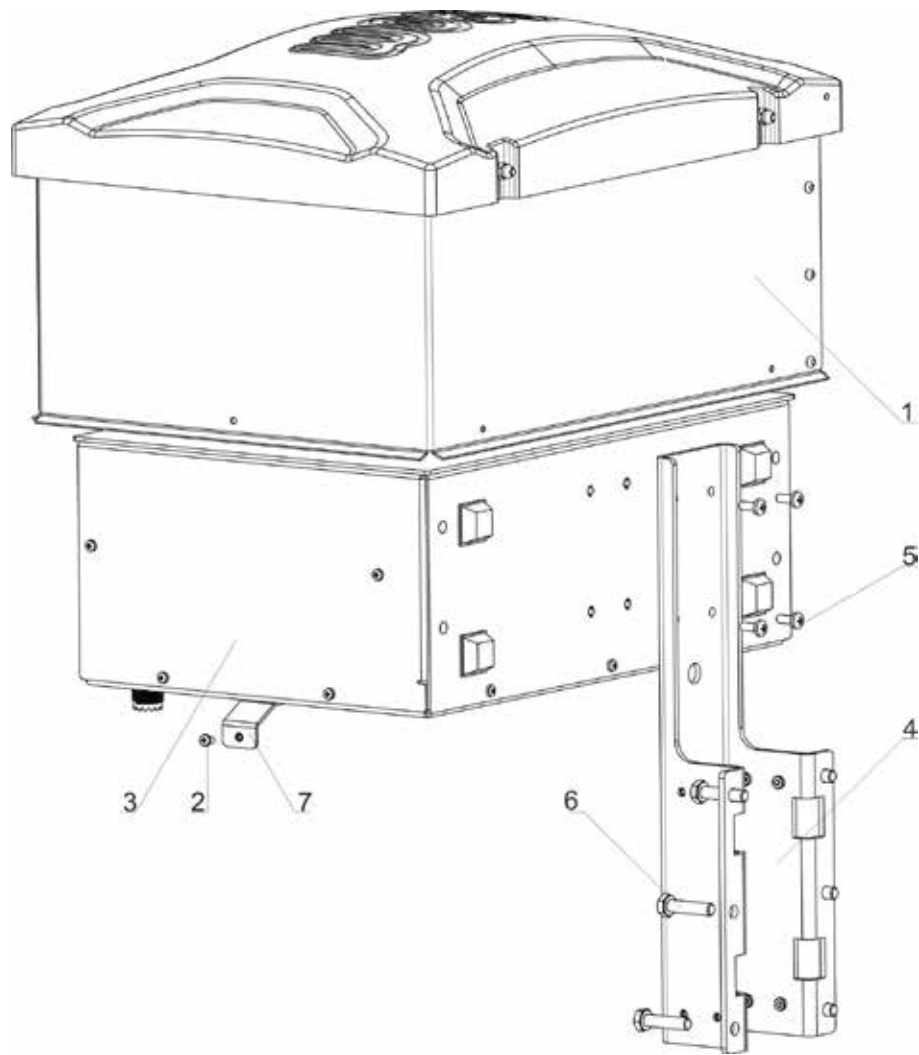

Fig. 2-4. Wall installation bracket
2.4.1 If the *wall* mounting option is chosen – Fig.2-4
Finally, slip the Weather Protection Cover **ACOM 04-WP** over the tuner – figures 2-4 to 2-7, (1) - directing it **with the protruding part (marked with ACOM) up**. Place it over the provided four carrying pins protruding from the tuner chassis. Carefully align the protection hood until the pins fit into the respective holes; the cover will go down a bit and will rest on the five carrying plates in the tuner base. Check whether all walls of the protection hood are equidistant from the tuner chassis and whether their bottom edges are parallel.